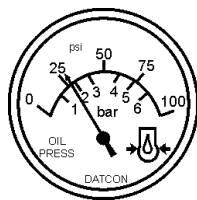

Figure 47. Oil Pressure Gauge
13. The engine oil pressure gauge (Figure 47) will indicate the oil pressure (kg/cm²) of the engine. Under normal operating conditions the oil pressure is approximately 25 psi.